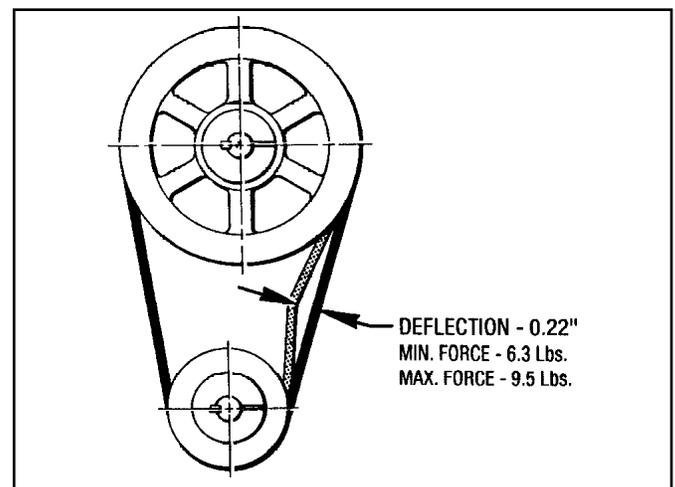

Figure 7.6 - Drive Belt Tension
3. Place the (3) Drive Belts (#531) on the Pulleys and re-tighten the belts by lowering the drive motor. This is done by loosening the bottom Nut (#462) and tightening the top Nut (#462). Adjust belt tension to specifications shown in Figure 7.6.